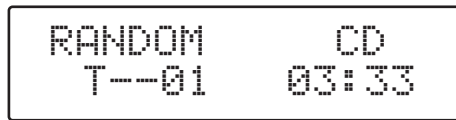

Fig 21.
1. During playback press the RANDOM button on the remote control to begin random playback. (Fig 21)